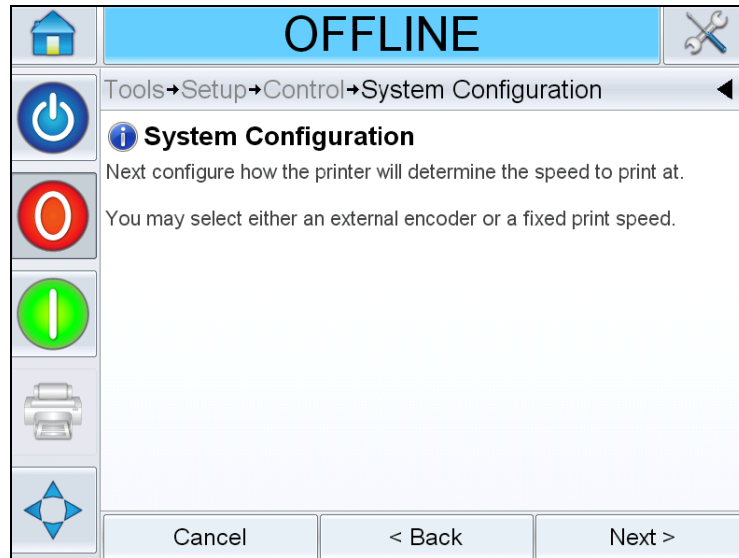

Figure 5-14: Line Speed
- 5 Select how the printer will determine what speed to print at by following the on-screen (see Figure 5-14).